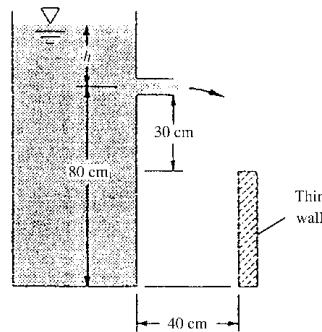

Fig. P3.154
- 3.154** In Fig. P3.154 the exit nozzle is horizontal. If losses are negligible, what should the water level  $h$  cm be for the free jet to just clear the wall?